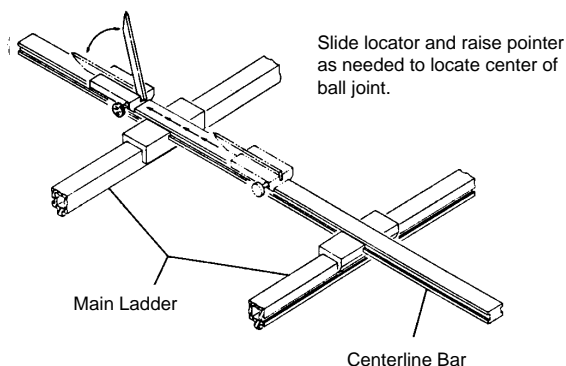

Figure 25
3. Place ball joint locator on centerline bar. (See Figure 25.)